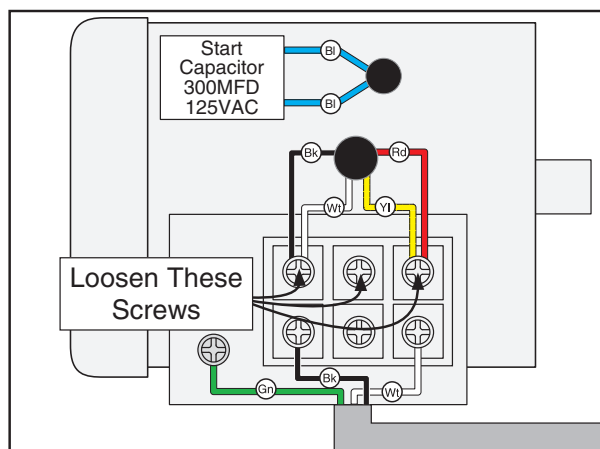

Figure 8. Location of screws to be loosened.
2. Open the motor junction box, then loosen the screws indicated in **Figure 8**.